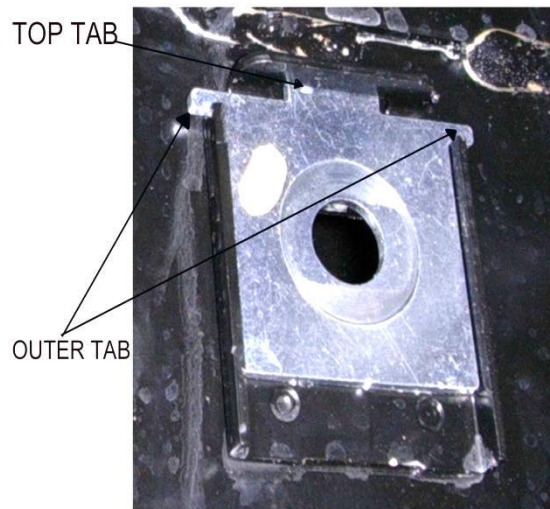

Figure 2
**Step 2** - Fit new plates. For the outer plate insert the plate at approximately 60 degrees to the chassis and swing bracket down, make sure the two outer tabs are sitting in their original position and also be sure the top tab is sitting in the raised slot of the chassis rail (Figure 2). Repeat for the inner bracket. Then insert the Bolt and tighten to original torque setting using the nut supplied in the kit.